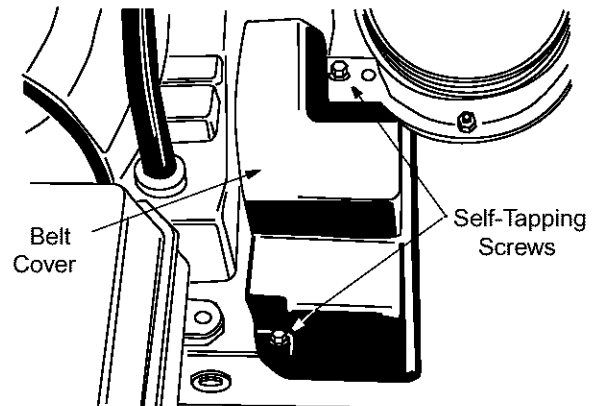

Figure 12
1. Remove plastic belt cover from front of the engine by removing the two self-tapping screws. See Figure 12.